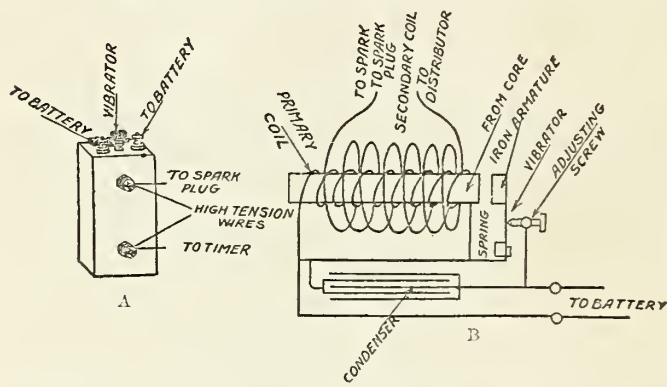

FIG. 42.—A. A spark coil. B. Wiring diagram of a spark coil.
Then there is (4) an *interruptor*, or *vibrator* as it is more often called; this consists of a trembler which makes and breaks the current that flows through the primary coil from the battery several hundred times a minute, and, finally, there is (5) a *condenser*, which is built up of alternate leaves of tin-foil and oiled paper, all of which is shown in the diagram at A in Fig. 42 and as it really is at B.